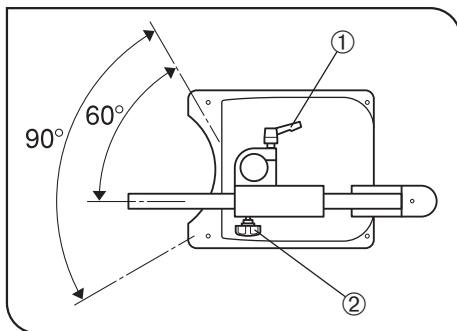

Fig. 17
2. To rotate the horizontal arm around the column, loosen the vertical clamping lever ①. This rotation is limited to 90° by the rotation stopper of the drop prevention ring. The rotation range can be set to the front 90° range, which renders the system most stable, by orienting the clamping knob ② of the drop prevention ring so that it points the front of the stand. (Fig. 17)